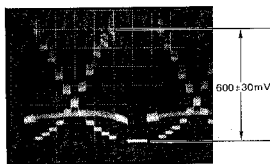

Fig. 5-8
- Adjust data by **ARROW** keys so that signal level becomes 460 ± 30 mV as shown in Fig. 5-8.